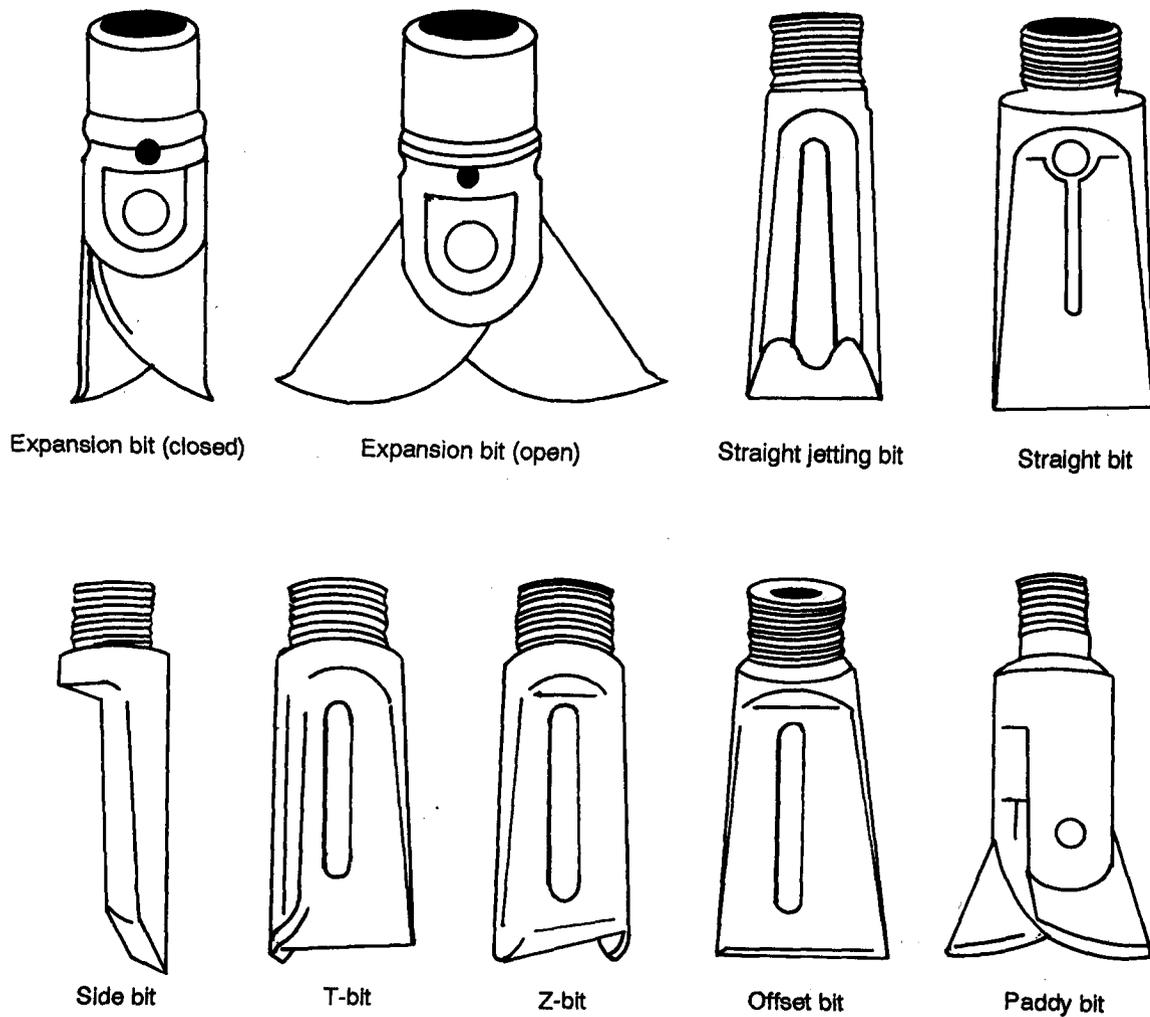

Figure 9-3. Bits
(6) Bits. In soft soil, you may use a paddy or expansion bit to make a hole that is slightly larger than the casing. Use the percussion method with a hand rig and straight bits to penetrate hard layers. Use drill-like bits with heavier rigs to penetrate hard layers that do not yield to the water jet. See Figure 9-3 for bits used in jetting.